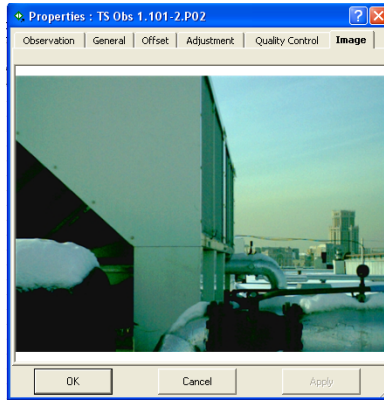

Figure 5-120. Image Properties
7. The *Image* tab displays the image(s) for the selected TS observation (Figure 5-120)